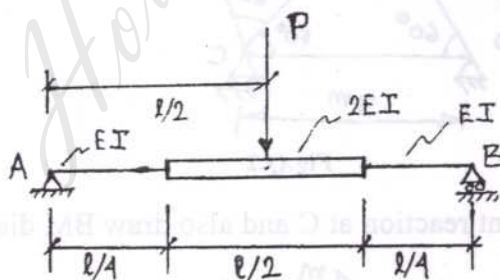

Fig.Q.7
7. Referring Fig.Q.7, find by conjugate beam method, the rotations  $\theta_A$  and  $\theta_B$  at the two ends of the beam AB and the deflection at the midspan. [16]